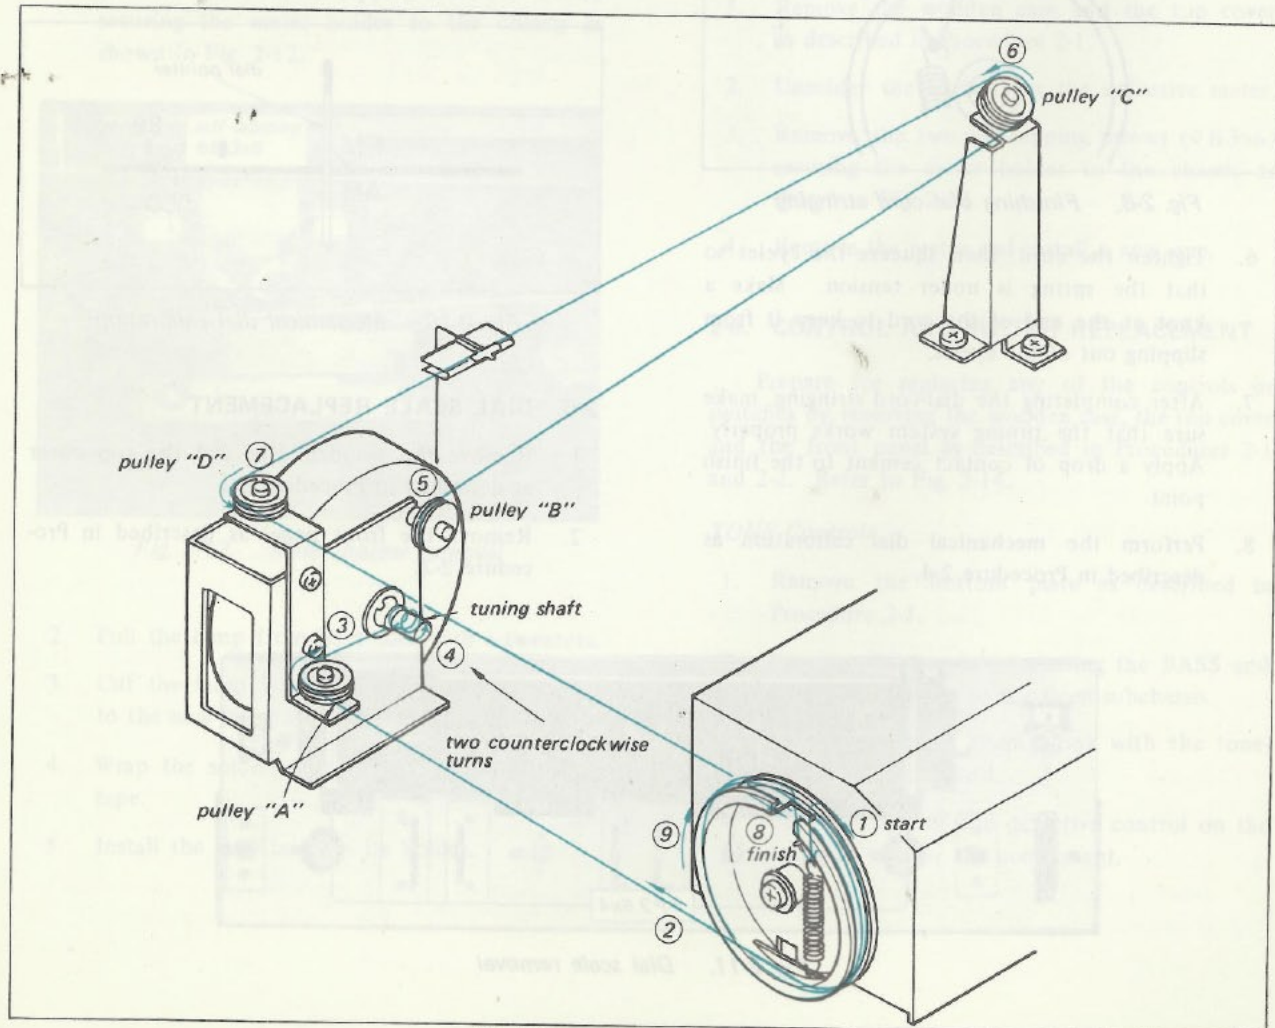

Fig. 2-5. Dial cord stringing
3. Tie the end of the cord to a spring as shown in Fig. 2-5.
While referring to Fig. 2-5, proceed as follows: